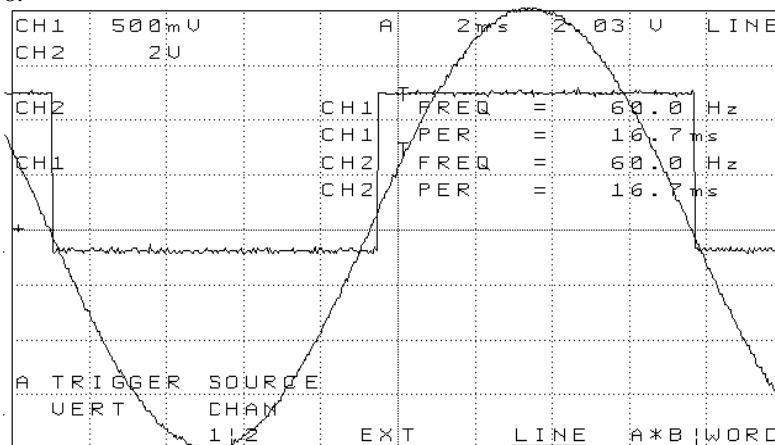

Figure 4.
- 10) With 3 phase still connected apply power and observe TP12 with channel 1, TP13 with channel 2 and observe the waveforms in FIGURE 4. The square wave on TP13 should be from -0.6 VDC and +5.0 VDC, this waveform will also be present on JA38.